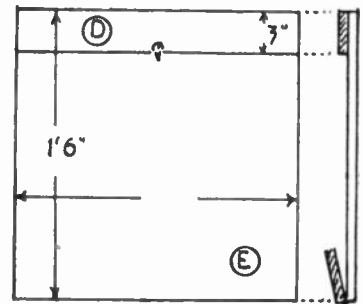

Fig. 3
Now lay the painted frame on top of the picture — covered by the transparent material if being used — turn over to the back and fasten with small panel pins knocked in at an angle as shown in Fig. 3 so that they hold the panel in position yet do not protrude on the face of the picture. By using the glass substitute all fear of breakage is avoided, but you should only use fine pins or the wood may split. Three or four pins on each side will be ample, but the amount depends entirely on the size of the picture.
remaining intact at each end. With this done the tube is pressed quite flat on the table and the ends folded down as in Fig. 3, so that the cut part is uppermost.
dimensions given at Fig. 3. One piece is left intact, the other is divided into two parts (D) and (E), as shown in the diagram. Part (D) is glued to the underside of the first panel, which actually is the top of the table. Part (E) is hinged to this latter part, at its bottom edge. The hinges should be recessed in both surfaces to enable (E) to fold up flat to the top panel. The side view, in Fig. 3, ex-